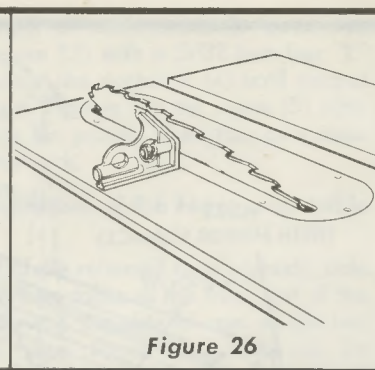
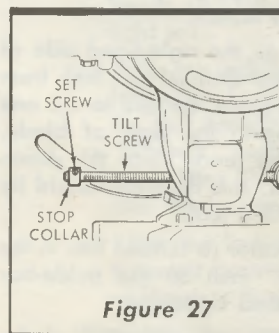

Figure 26
Figure 27
- (3) Tighten the clamp screw handle to secure the tilt mechanism.
- (4) Remove the blade from a combination square and place the head of the square on table top and against saw blade. (See figure 26.) The saw blade should be setting at exactly 45 degrees with table top surface.
- (5) If the acute angle between saw blade and table top is not 45 degrees, loosen the clamp screw handle and rotate the tilt hand wheel clockwise until the tilt mechanism moves a short distance away from the stop collar located farthest out toward the end of tilt screw so the collar can be reached for an adjustment. When the tilt gauge indicates approximately 25 degrees the collar will be accessible.
- (6) Loosen the two set screws in the stop collar. (See figure 27.) Rotate the stop collar on tilt screw in
- (7) Tighten the two set screws in stop collar, rotate the tilt handwheel several turns in a clockwise direction; then rotate the handwheel counterclockwise until it will turn no farther.
- (8) Tighten the clamp screw handle and make a final check for accuracy of the 45 degree position as shown in figure 26. If tightening set screws in stop collar changed the adjustment make correction as described in preceding instructions.